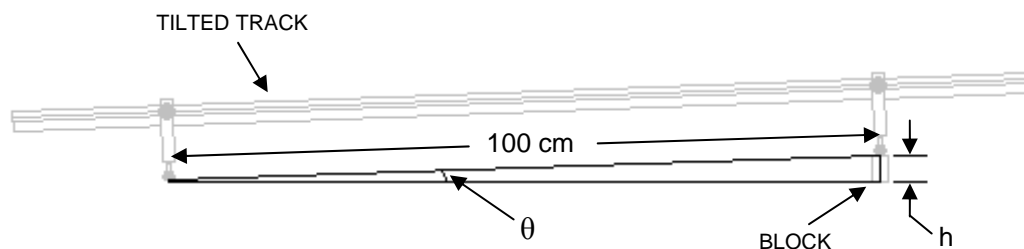

FIGURE 5 – Calculating the Angle of the Track
**Part 3 – Two Objects, Angled Surface** You are now going to follow the same procedure as the last section but now you will be doing it with the track at an angle. See **Figure 5** on the next page.
**G)** In order to calculate the tension from these equations you need the angle,  $\theta$ , of the track. You are going to use a right triangle (in black in **Figure 5** below) where the hypotenuse is the 100 cm between the feet and the height,  $h$ , is the height of the block. Remove the block from under the foot of the track and use the ruler on the track to measure its height. Using a trig function, calculate the angle,  $\theta$ .